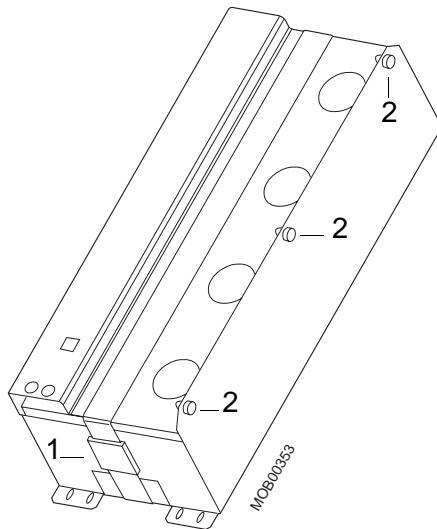

Fig. 2
3. Open the holding belts (1/Fig. 2) and open the battery boxes by loosen three screws (2/Fig. 2).